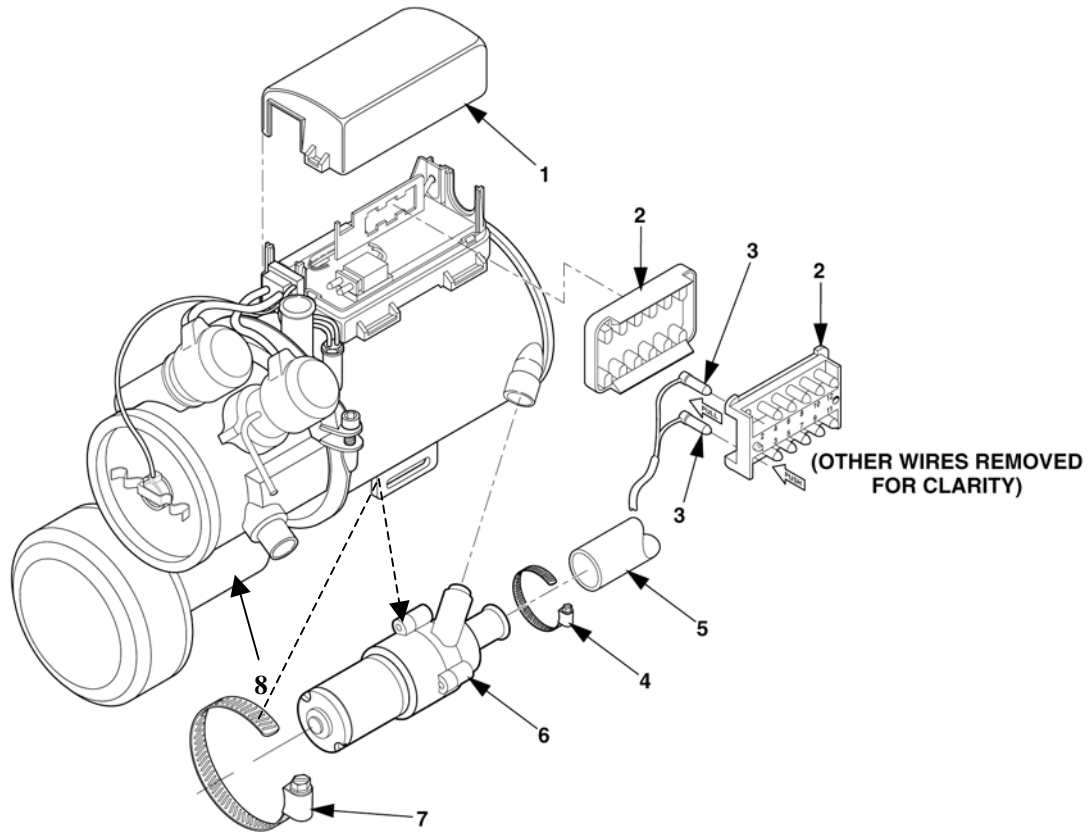

Figure 4-31. Coolant Pump Maintenance.
2. Remove electrical cover (1), Figure 4-31 and 12-pin connector (2).
3. Remove 12-pin connector (2) and push out pins (3) to coolant pump (6).
4. Remove clamp (7), attaching pump (6) to heater (8).
5. Loosen clamp (4) and remove outlet hose (5) from pump (6), using a container to catch coolant from hose.